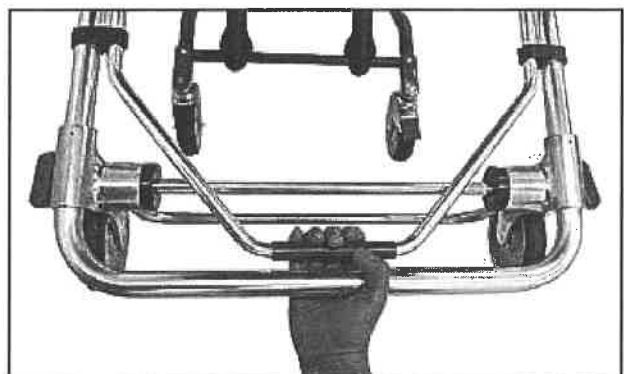

Figure 11 - Drop Frame Release Bar
- **Use:** Squeeze the release bar (Figure 11) to unlock the drop frame, then raise or lower the drop frame to the new position. Let go of the release bar at the new position.